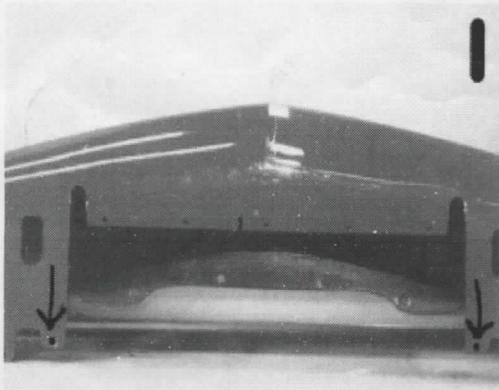

FIG. 1
1. REMOVE FACTORY THREE-PIECE BLACK PLASTIC AIR DAM FROM ORIGINAL MOUNTING POSITION. RETAIN HARDWARE FOR LATER USE. REMOVE TWO (2) ADDITIONAL FACTORY MOUNTING SCREWS (SEE FIG. 1). **NOTE... ALL MOUNTING HOLES HAVE BEEN PRE-DRILLED IN SPOILER. TAKE NOTICE OF LEFT AND RIGHT HAND DESIGNATION OF SPOILER RETAINERS.**